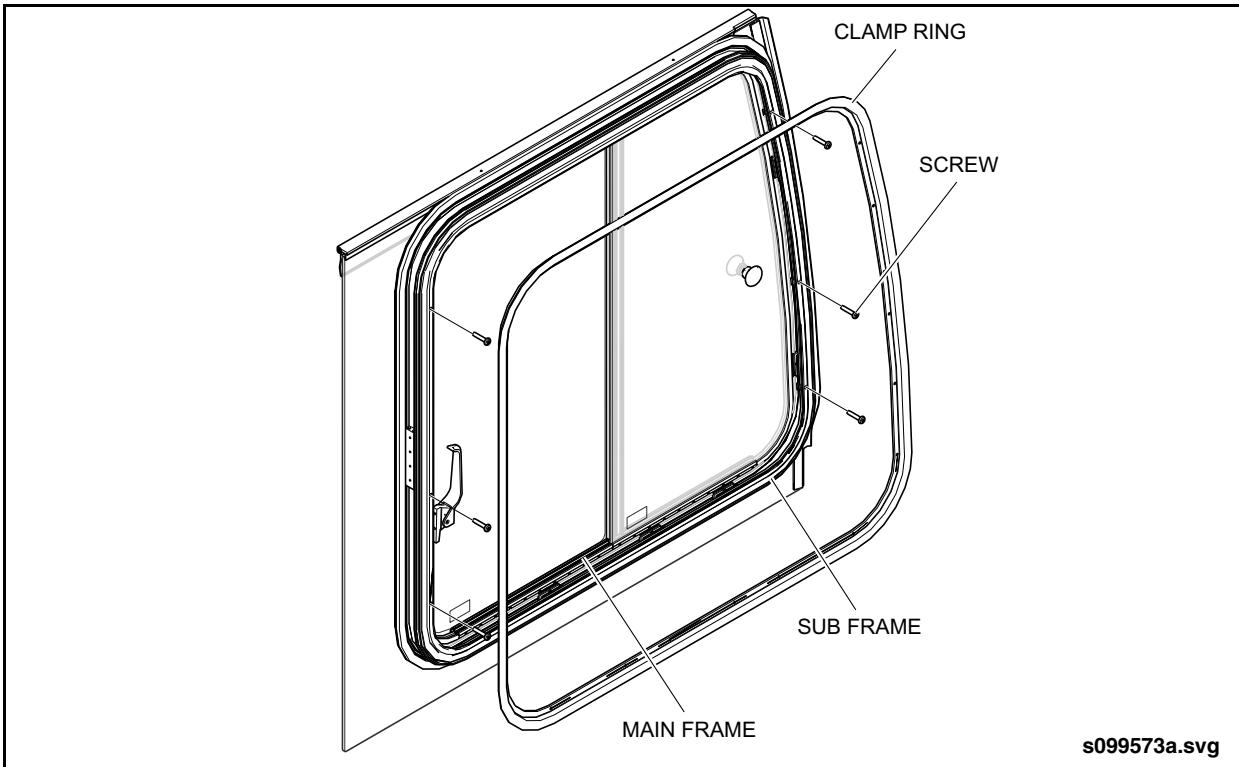

Fig. 14-6: Driver's Window Frame Removal
1. From the inside of the vehicle, remove the six screws that attach the main frame to the subframe and prop the window open with a prop rod. Use an Allen wrench to remove the two socket head screws from the underside of the subframe. Remove the centering screw from the top of the female hinge attached to the window frame. See "Fig. 14-6: Driver's Window Frame Removal" on page 7.